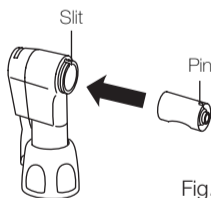

Fig.7
- 5) Insert the new cartridge, with its pin aligned in the slot of the head. (Fig. 7)